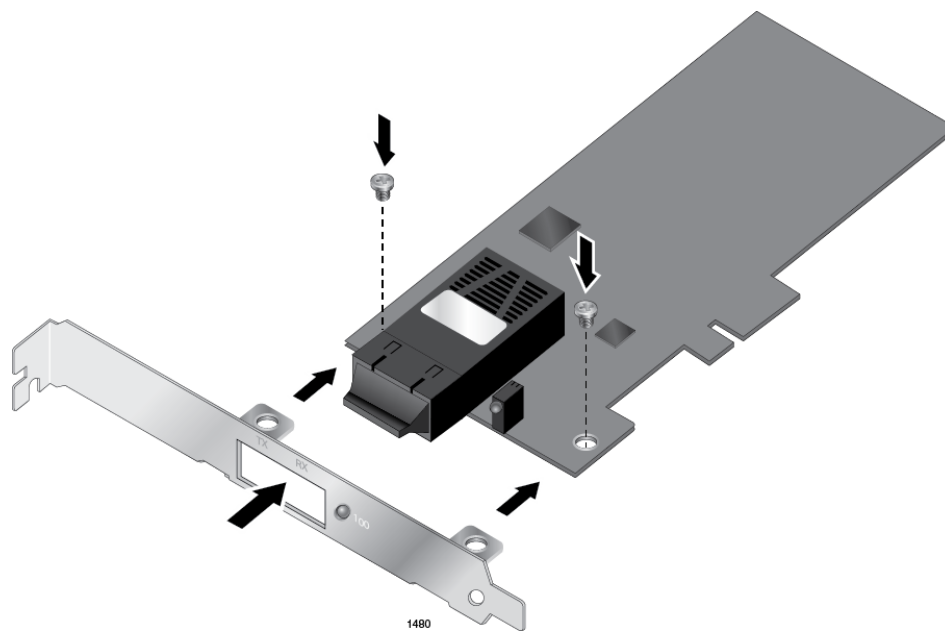

Figure 10. Fastening Screws onto Standard Bracket
2. Align the tabs of the standard bracket with the holes on the adapter and fasten the screws onto the adapter. See Figure 10.